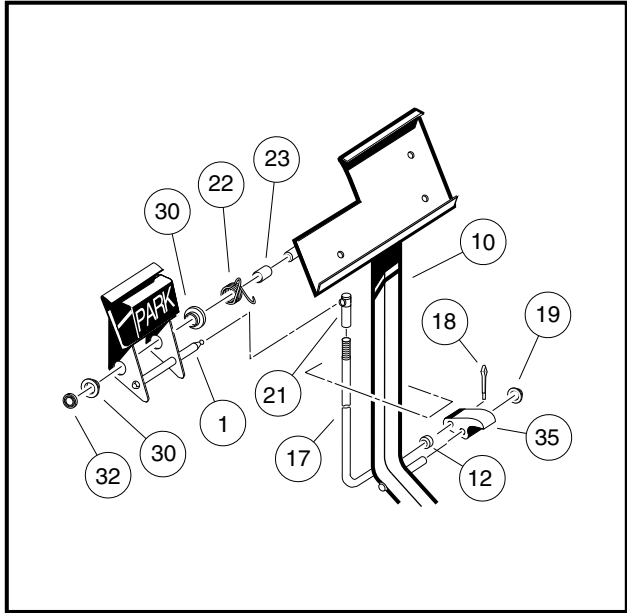

Figure 5-4 Park Brake Assembly
**NOTE:** New push nuts (19) and (32) must be used when reassembling the park brake (**Figure 5-4, Page 5-6**).
- 3.2. To remove the park brake pedal (1), remove the push retainer nut (32), disconnect the torsion spring (22) (**Figure 5-4, Page 5-6**) and slide the pedal off of the shaft. **See preceding NOTE.**
1. From the bottom side of the floorboard, insert the park brake rod (17) through the brake pedal assembly opening as shown (**Figure 5-4, Page 5-6**). Then install the park brake pawl (35) onto the shaft on the brake pedal assembly (10) and also insert the park brake rod (17) into the park brake pawl.
2. Install the push nut (19) on to the park brake pawl shaft.
3. Install the spacer (23) and torsion spring (22) on the park brake pedal shaft on the brake pedal assembly.
4. Install the two bushings (30) in the park brake pedal and position the park brake pedal on the shaft on the brake pedal assembly weldment (10) (**Figure 5-4, Page 5-6**). Then attach the ends of the torsion spring to the park brake pedal and to the brake pedal weldment as shown (**Figure 5-5, Page 5-7**).
5. Install the push nut (32) on the park brake pedal shaft (**Figure 5-4, Page 5-6**).
6. Connect park brake rod (17) with ball joint (21) to the ball stud on the park brake pedal assembly (**Figure 5-4, Page 5-6**).